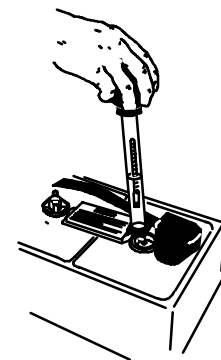

FIG. 39
1. Check the specific gravity using a hydrometer to determine the charge level and the condition of the batteries (Figure 39). If one or more of the battery cells read lower than the other battery cells (0.050 or more), the cell is damaged, shorted, or is about to fail. Check the hydrometer readings against the following chart to determine the remaining battery charge level.